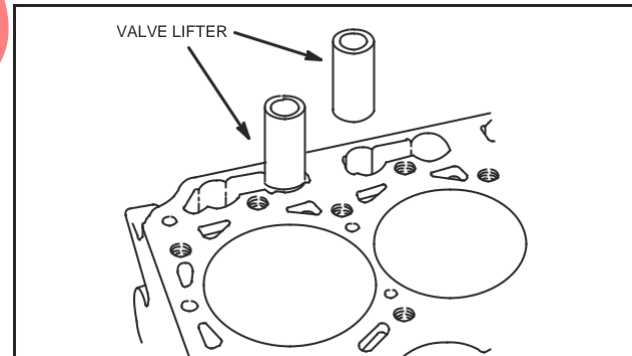

Fig. 3 – Removing Valve Lifters
6. Remove valve lifters, Fig. 3.